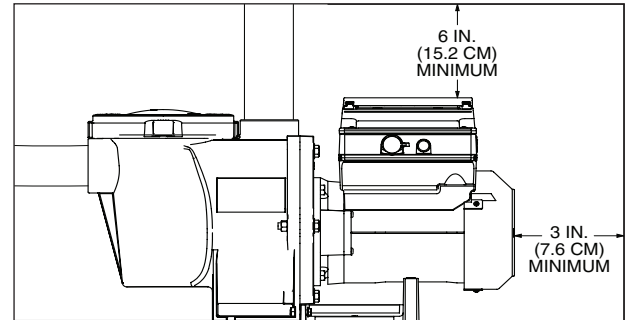

Figure 1: Pump Rear and Overhead Clearance
6. Install the pump with a rear clearance of at least 3 inches (76.2 mm) so that the motor can be removed easily for maintenance and repair. See **Figure 1**.